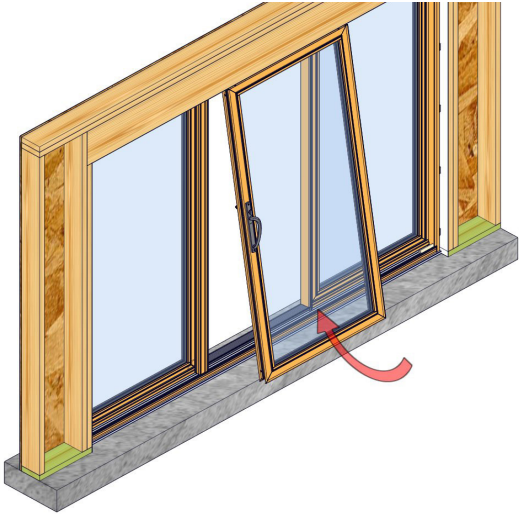

Fig. 27
1. Angle the active panel with the top inserted into the head track, and then lift and set the bottom rollers on roller track. (Fig. 27)